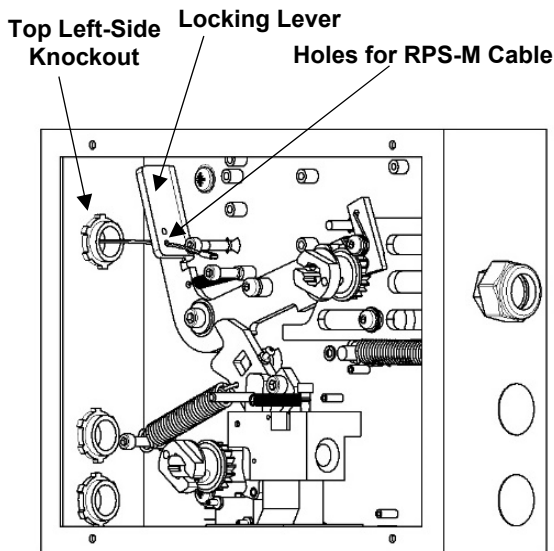

Figure 4-31.
4. Remove the excess cable after crimping the cable. See **Figure 4-31**.